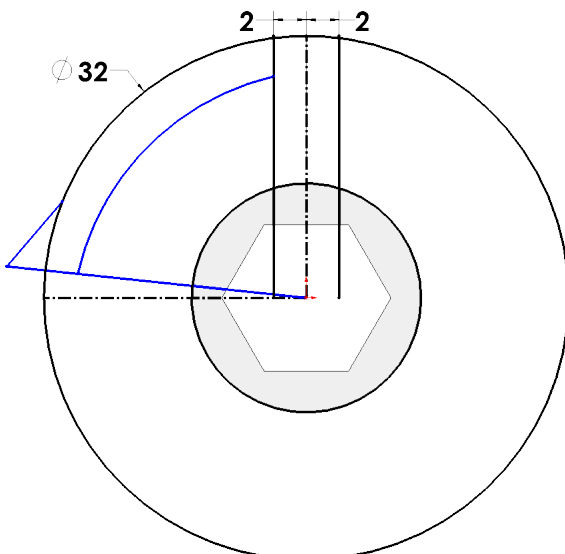

Fig. 16
Step 16. Sketch a 3 point arc between left offset and angled line, **Fig. 16**.